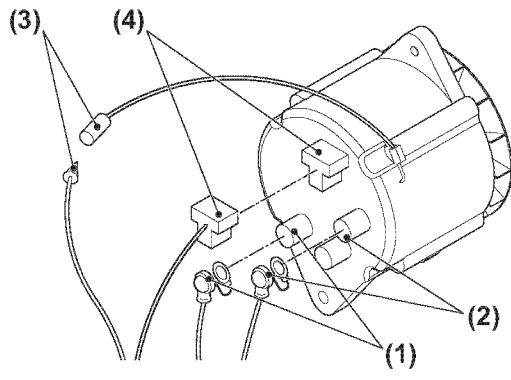

Figure 11-8
4. Disconnect the positive (+) cable (**Figure 11-8, (1)**) from alternator E terminal.
5. Disconnect the connector (**Figure 11-8, (2)**) from alternator BAT terminal.
6. Disconnect wire connector for IC regulator (**Figure 11-8, (3)**).
7. Disconnect the wire connector for the speed sensor, if used (**Figure 11-8, (4)**).